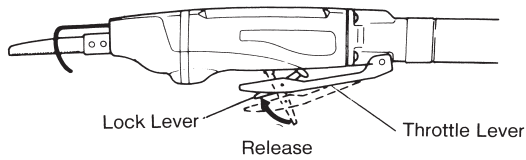

Fig.3
**4-2. Start and Stop (Fig.3)**